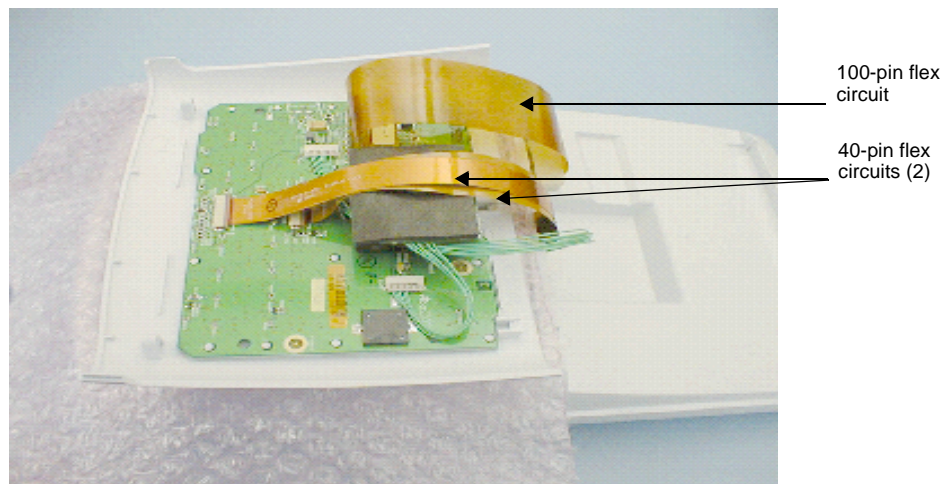

Figure 7.16 Installing the Display Wire Harness and Flex Circuits
9. Install the Display Wire Harness and the two 40-pin flex circuits (Figure 7.16).